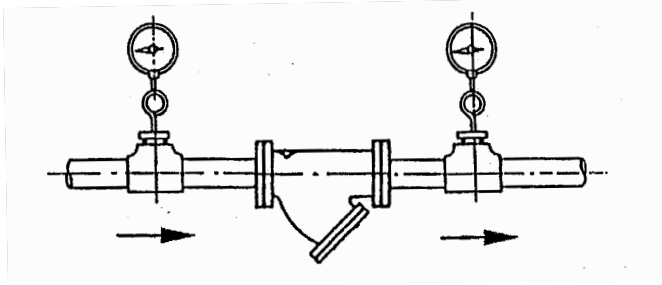

Fig. 1 Horizontal piping
1. Clogging inside the product can be known from the differential pressure measured when pressure gauges are installed in upstream and downstream of the product. [See Fig. 1.]